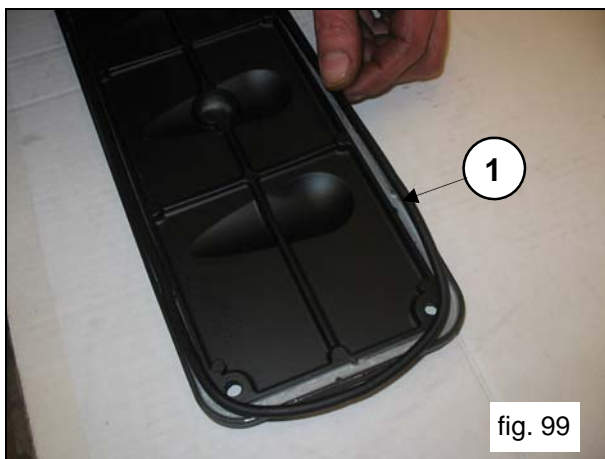

fig. 99
Insert the O-rings on the two inspection covers (pos. ①, fig.99) and mount the covers using 4+4 x M6x14 screws (pos. ①, fig.100).